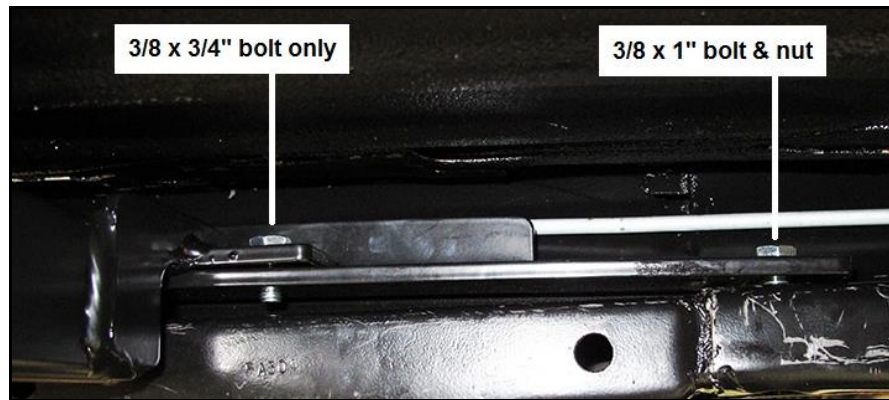

Figure 2 - 1983-87 2004R chassis cars only
- 4B. Attach the front of the angle bracket to the vehicle frame perch use a supplied 3/8 x 1" bolt and nut (**Figure 2**). Attach the crossmember to the mid-point of the angle bracket by installing the single supplied 3/8 x 3/4" bolt into the threaded hole at that position (**Figure 2**).